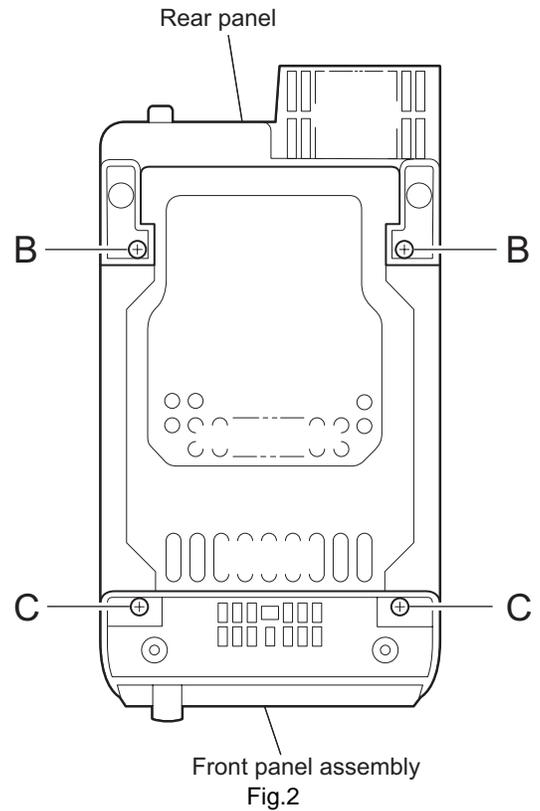

Fig.2
2.1.2 Removing the side panel (L) and (R) (See Fig.2~5)
- (1) While moving the trigger arm on the right side of the head mount in the direction of the arrow, turn the flywheel R counterclockwise until the head mount comes ahead and clicks.
- (2) The head turns counterclockwise as you turn the flywheel R counterclockwise (See Fig.2 and 3).
- (3) Disconnect the flexible wire from connector CN31 on the head amplifier & mechanism control board.
- (4) Remove the spring from the back of the head.
- (5) Loosen the azimuth screw for reversing attaching the head.
- (6) Remove the head on the front side of the head mount.